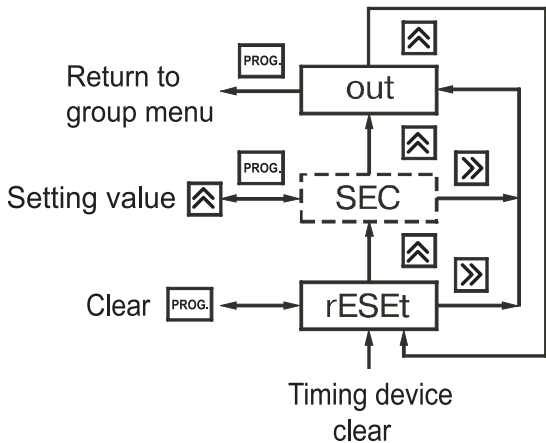

Figure 29.
6.1.12. «t.rES» group (figure 29) is used to reset timing device, for example in case of use of the instrument as the operating time counter.